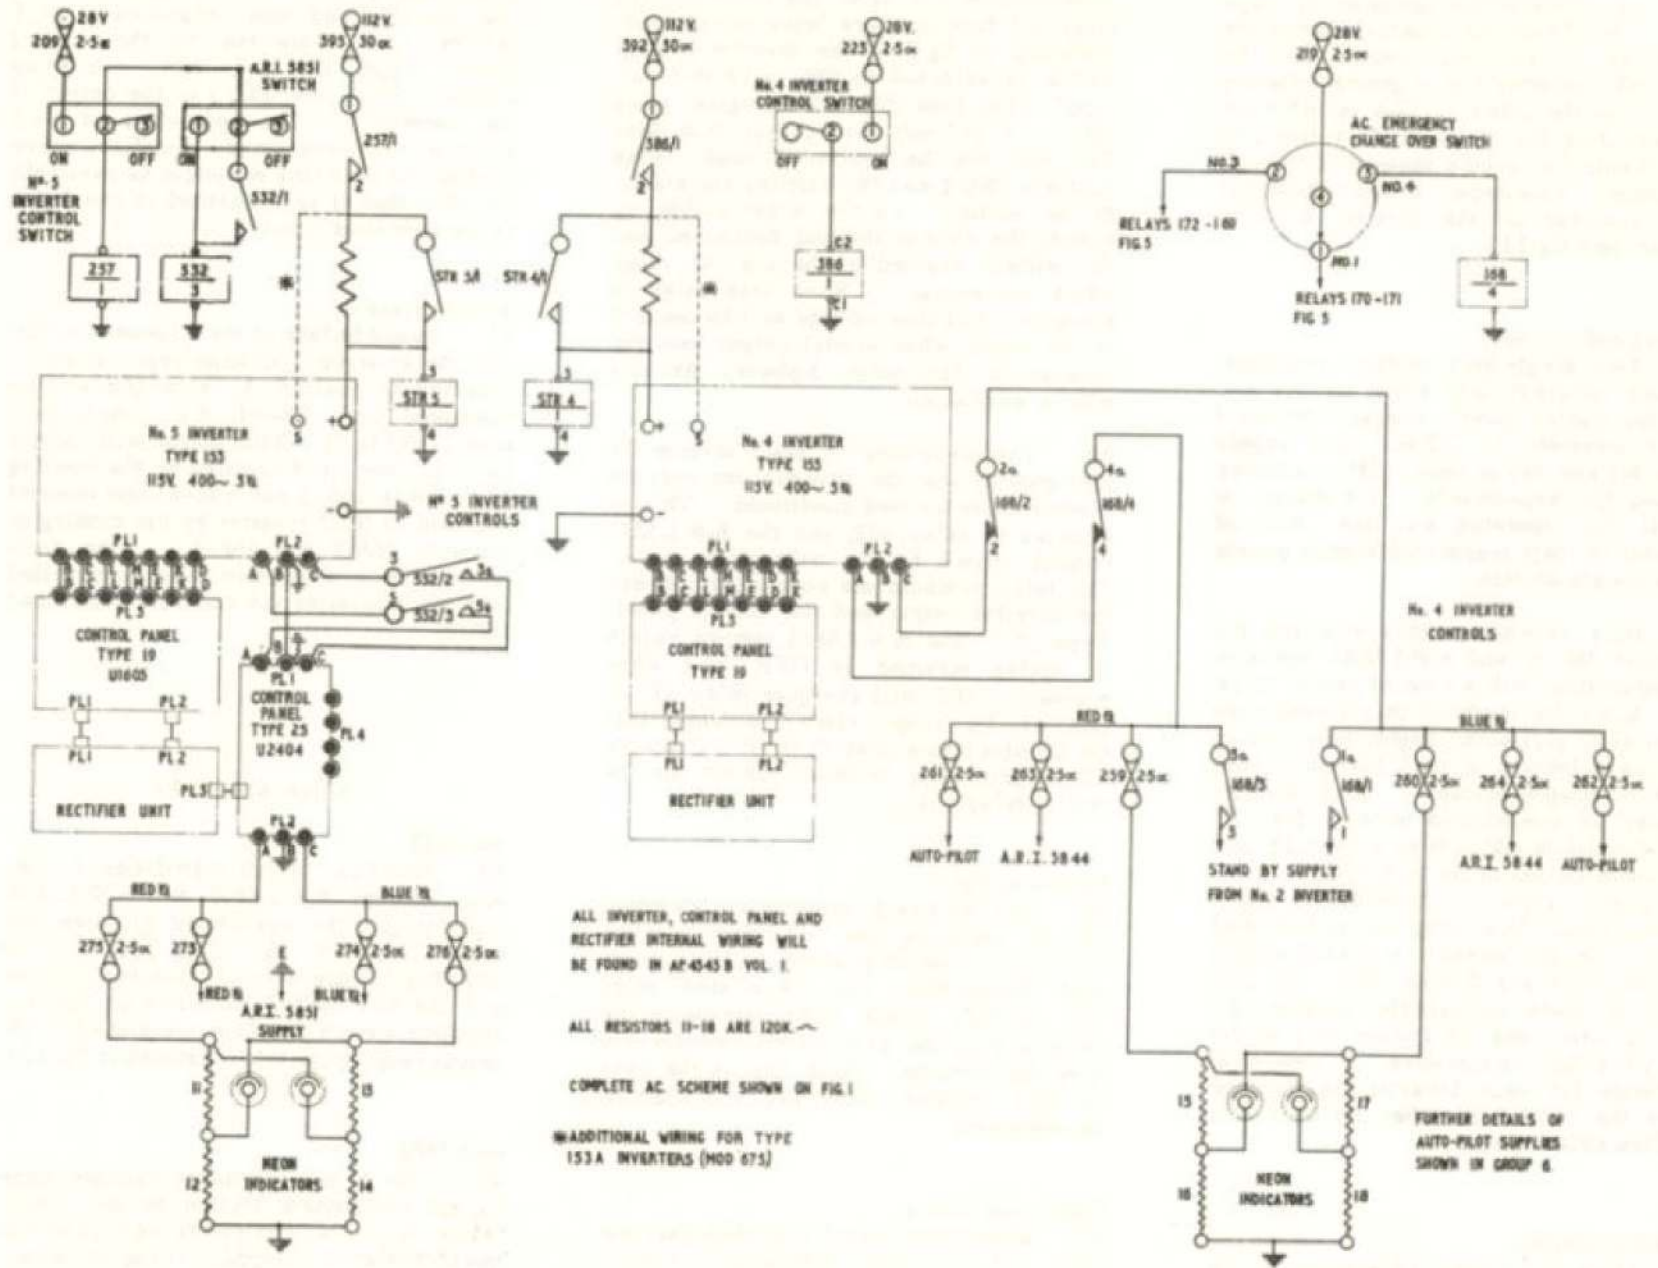

Fig. 7 Type 153 inverters control
equally to No.5 inverter, the corresponding relay and fuse numbers being substituted. Referring to fig.7, if the inverter control switch is selected to ON, a 28-volt d.c. supply from fuse 223 will energise relay 386. A 112-volt d.c. supply from fuse 392 will now be applied through relay contacts 386/1 and the starting resistance to the motor. As the motor builds up speed, the current demand decreases and the voltage applied to the coil of relay STR4 increases. When this relay is energised, full line voltage will be applied to the motor, when normal output from the inverter at 115 volts, 3-phase, 400 c/s will be available.
40. Reference to fig.7 will show that the load and the neon indicators of No.4 inverter are connected to the output of that machine via normally closed relay contacts
41. Should failure of No.4 inverter occur, and the emergency change-over switch is selected to position 4, relay 168 will be energised by a 28-volt d.c. supply from fuse 219 (Fig.7). This action will isolate the load from No.4 inverter by the opening of contacts 168/2 and 168/4, and connect the load to No.2 inverter by the closing of contacts 168/1 and 168/3. Also, No.4 inverter neon indicators will be supplied from No.2 inverter via contacts 168/1 and 168/3.